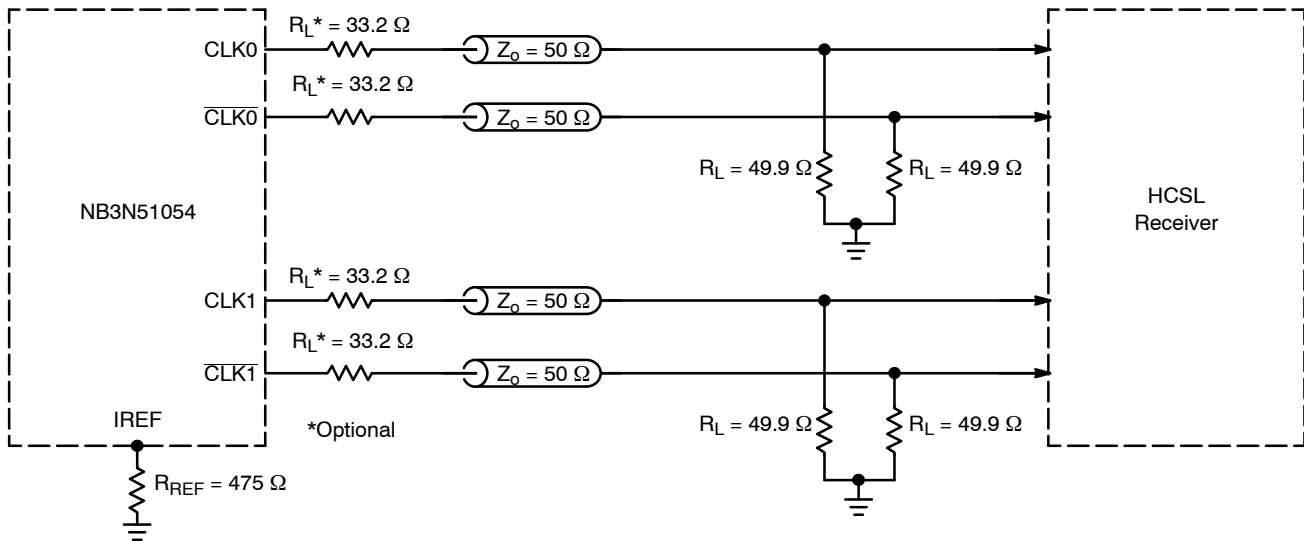
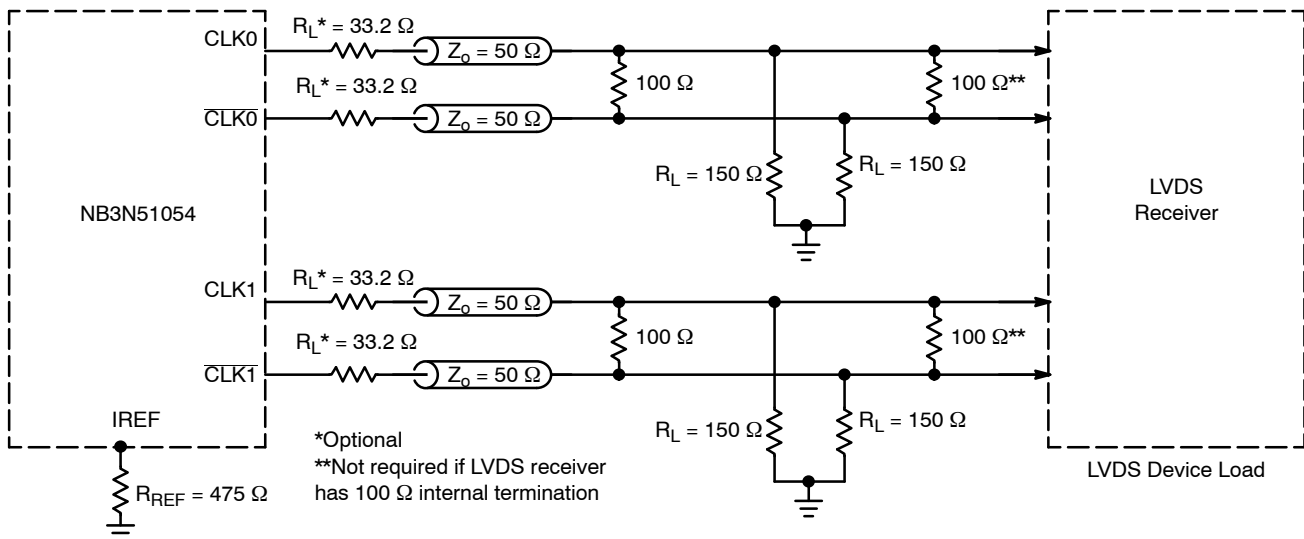

Figure 6. Typical Termination for HCSL Output Driver and Device Evaluation
Figure 7. Typical Termination for LVDS Device Load
- Measurement taken with outputs terminated with R_S = 33.2 Ω, R_L = 49.9 Ω, with test load capacitance of 2 pF and current biasing resistor set at R_{REF} = 475 Ω. See Figure 6. Guaranteed by characterization.
9. Measurement taken from differential output on single-ended channel terminated with $R_S = 33.2\ \Omega$, $R_L = 49.9\ \Omega$, with test load capacitance of 2 pF and current biasing resistor set at $R_{REF} = 475\ \Omega$. See Figure 6. Guaranteed by characterization.
14. Measurement taken from differential output on single-ended channel terminated with R_S = 33.2 Ω, R_L = 49.9 Ω, with test load capacitance of 2 pF and current biasing resistor set at R_{REF} = 475 Ω. See Figure 6. This parameter is guaranteed by characterization. Not tested in production
The outputs can be terminated to drive HCSL receiver (see Figure 6) or LVDS receiver (see Figure 7). HCSL output interface requires 49.9 Ω termination resistors to GND for generating the output levels. LVDS output interface may not